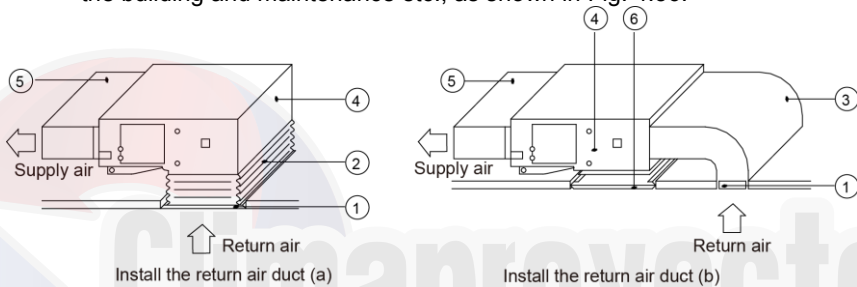

Fig. 4.36
- (3). If the bottom return air is desired, just change the place of the rectangular flange and the return air cover plate.
- (4). Connect one end of the return air duct to the return air outlet of the unit by rivets and the other to the return air louver. For the sake of the convenience to freely adjust the height, a cutting of canvas duct will be helpful, which can be reinforced and folded by 8# iron wire
- (5). More noise is likely to be produced in the bottom return air mode than the backward return air mode, so it is suggested to install a silencer and a static pressure box to minimize the noise.
- (6). The installation method can be chosen with considering the conditions of the building and maintenance etc., as shown in Fig. 4.36.